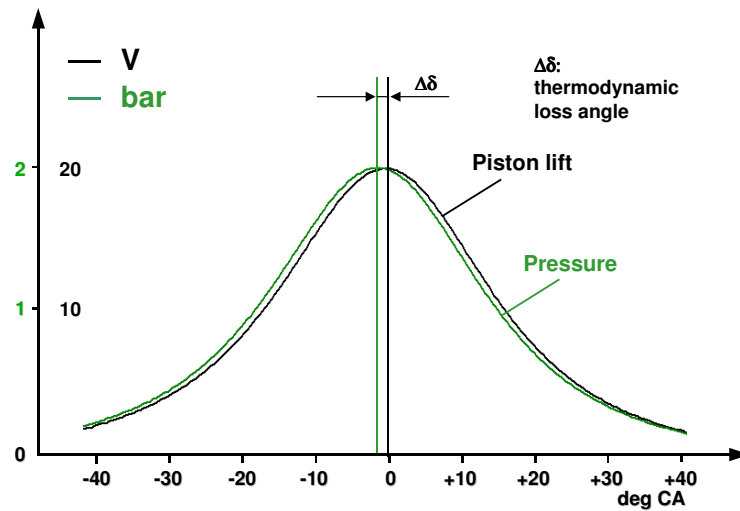

Figure 3: Pressure and Piston Lift Curve
- Comparison of the TDC-sensor and the cylinder pressure signals (engine thermodynamic loss angle, see figures 3 and 4)